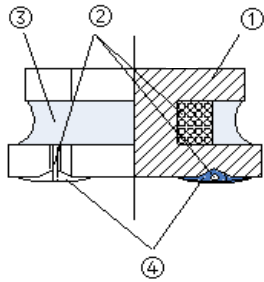

Fig.4-3
- Structure: See **Fig.4-3** and **Table 4-2**.